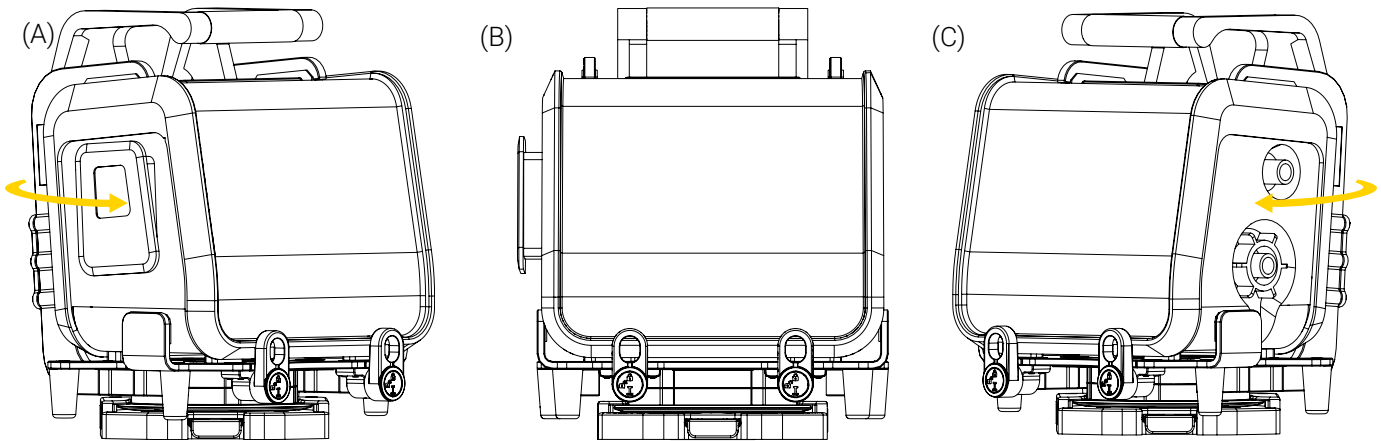

Figure 10: Rotating the Bracket Pro Serie 60 - GR on the Standard Surface Base
3. Turn the bracket clockwise or counterclockwise to the desired position (Figure 10).